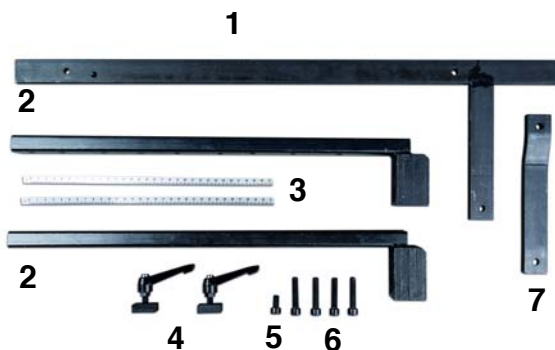
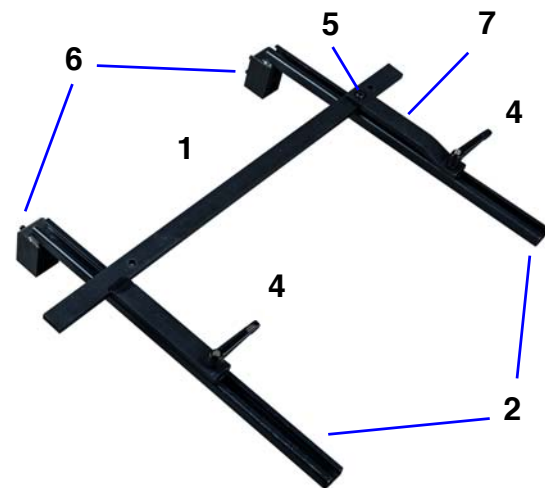

Fig. 8: Components of the back gauge
Fig. 9: Back gauge assembled
Step 1: Screw the two guide rails (Pos. 2, Fig. 8) to the back of the machine (Fig. 11) using the four long screws (Pos. 6, Fig. 8). Use the four long screws (Pos. 6, Fig. 8).
Step 3: Insert the clamping handle (Pos. 4, Fig. 8 and Fig. 9) into the hole on the short bracket of the stop angle (Pos. 1, Fig. 8 and Fig. 9).
Step 4: Slide the T-slot nut (Pos. 4, Fig. 8 and Fig. 9) into the guide rail (Pos. 2, Fig. 8) and fasten the stop angle (Pos. 1, Fig. 8) to the left guide rail (Pos. 2, Fig. 8) using the clamping handle (Pos. 4, Fig. 8). Do not tighten the clamping lever completely so that the stop angle can still be aligned.
Step 5: Insert the second clamping handle Pos. 4, Fig. 8 and Fig. 9) into the hole in the curved area of the connector (Pos. 7, Fig. 10).
Step 6: Then attach the bended connecting piece (Pos. 7, Fig. 8) to the right guide rail using the second clamping handle and the second T-slot nut (Fig. 10). Do not completely tighten the clamping lever so that the connector can still be aligned.
Step 7: Fasten the bended connector (Pos. 7, Fig. 9) with the small screw (Pos. 5, Fig. 9) in the threaded hole in the junction of the angle bracket (Fig.10).